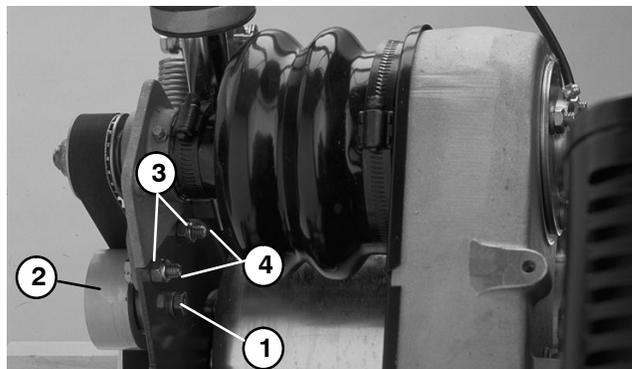
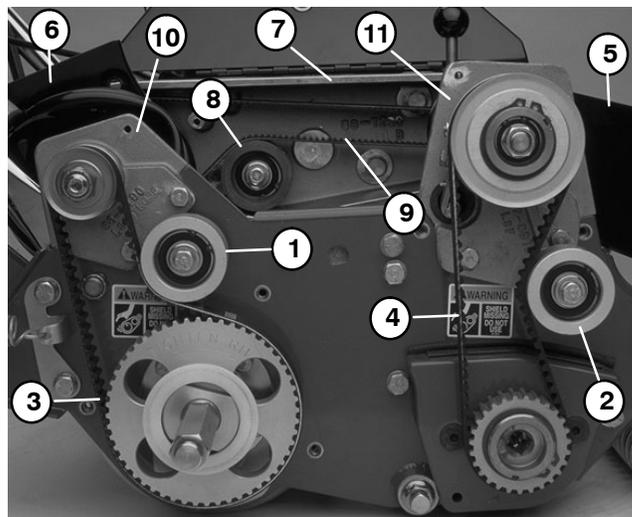

Figure 46
Figure 48
3. Loosen cap screws securing drum and reel drive idler pulleys and spacers to the right side plate (Fig. 46 and 47). Rotate each idler pulley counterclockwise away from the backside of each belt to release belt tension. Remove both belts (Fig.48).
4. Remove capscrews and lock washers securing the front and rear box covers to the counter shaft housing. Slide covers away from the housing to expose the belt (Fig. 48).
5. Loosen cap screw on the engine side of the counter-shaft housing that secures the idler pulley and spacer. Rotate idler pulley counterclockwise away from the backside of the belt to release belt tension. Cut belt and remove belt from the countershaft housing (Fig.48).
6. Remove both cap screws and locknuts securing the right rear bearing housing to side plate. Rotate housing 180° so the bottom of the housing points upward (Fig. 46 and 48).
9. Rotate clutch and right rear bearing housings back into the upright position. Secure both housings to the sideplate with previously removed cap screws and lock nuts (Fig.48).